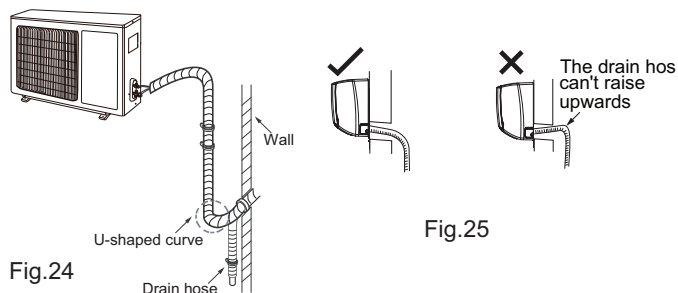

Fig.25
- (1) The through-wall height of drain hose shouldn't be higher than the outlet pipe hole of indoor unit.(As show in Fig.25)